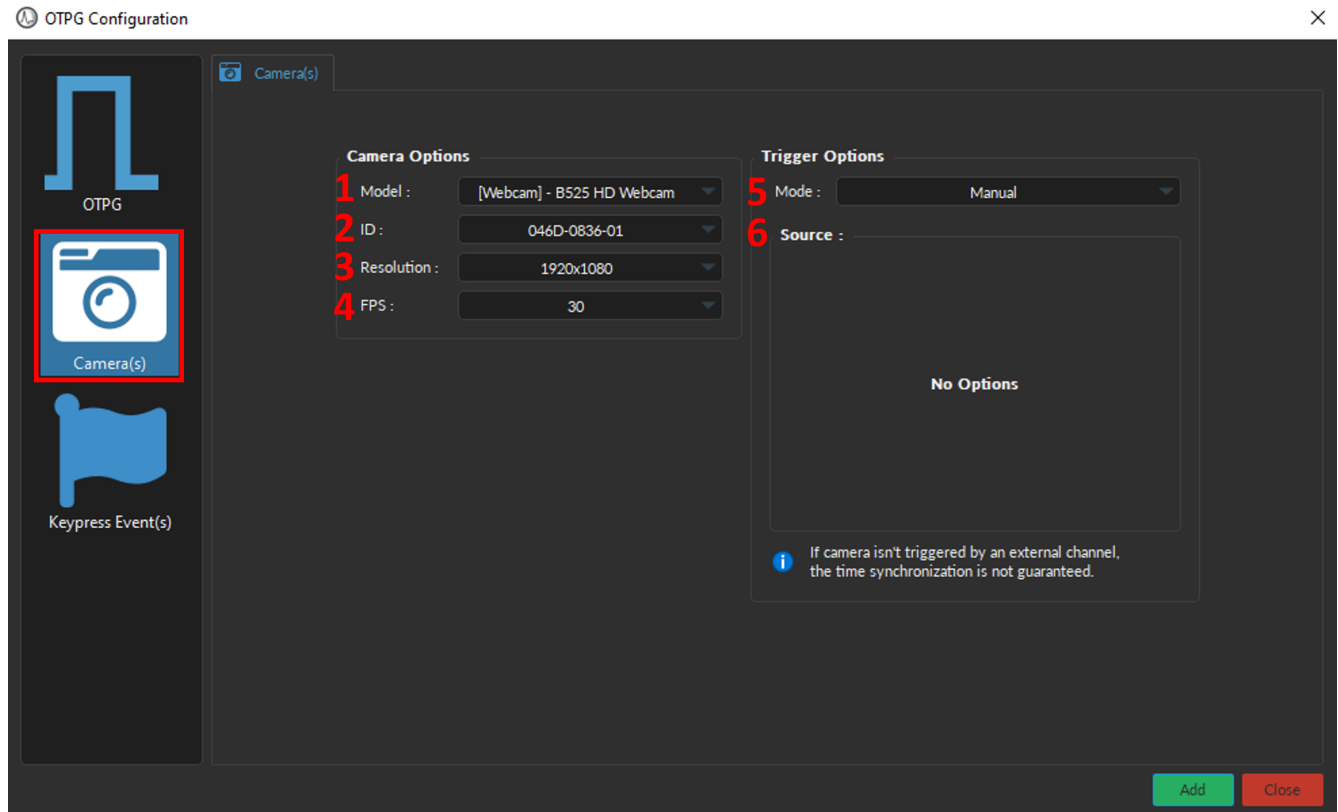
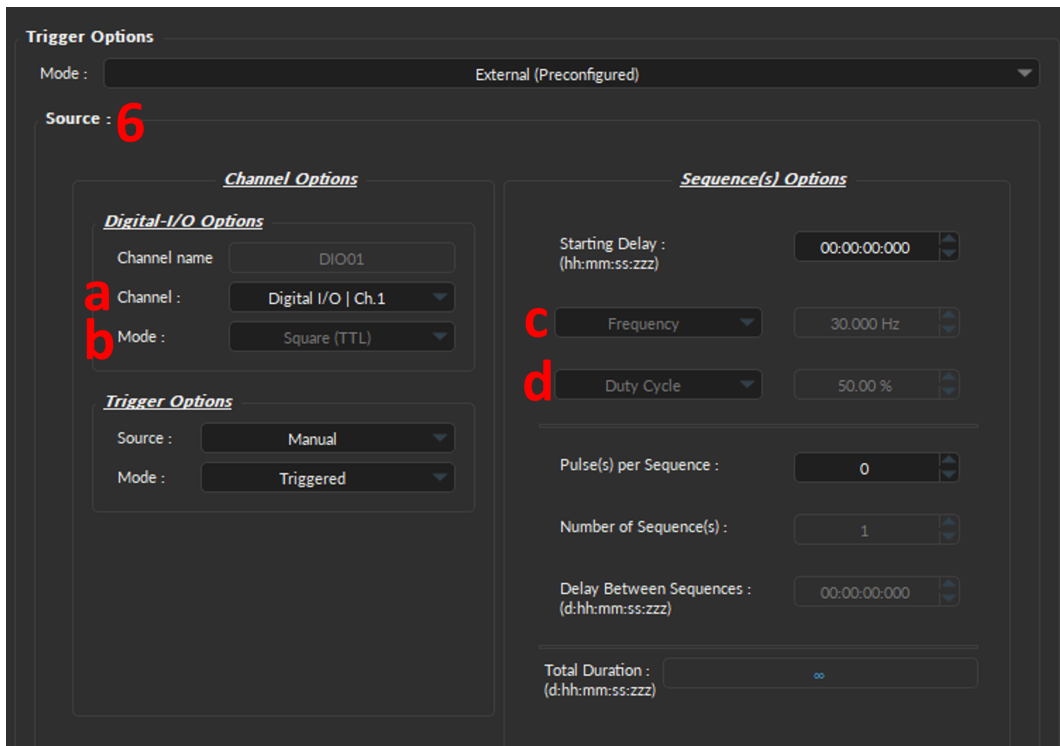

Figure 8.18: Channel(s) configuration window, Camera
Figure 8.20: Channel(s) configuration window, Camera - External (Preconfigured)
1. The **Model** (Fig. 8.18, 1) allows you to select the camera of choice based on the type of camera.
2. **ID** drop-down list (Fig. 8.18, 2) is used to select a camera based on its unique ID. The ID is particularly useful if multiple cameras of the same model are required for the experiment.
3. The **Image Size** (Fig. 8.18, 3) is used to set the resolution of the image. The large the number of pixels used for width x height, the better the resolution. Currently, image size can ranges between 160x120 to 1920x1080 pixels.
4. The **FPS** (Fig. 8.18, 4) is used to specify the frame rate of the camera (i.e. the number of images displayed per second). FPS can be any value between 5 to 30 for web cameras and up to 60 FPS for the *Doric Behavior Camera*.
- The **Mode** (Fig. 8.18, 5) sets the type of trigger that will control the camera. Depending on the type of camera, at most three modes are available:
- The **Source** (Fig. 8.18, 6 & Fig. 8.20) is only used for the **External (Preconfigured)** mode, and displays the **Digital I/O** channel with the preconfigured parameters that will be created at the same time as the **Camera Channel** (Fig. 8.20). For a detailed description of each Digital I/O parameter see Section 8.2.3. Briefly, key parameters include:
- The **Channel** (Fig. 8.20, a) corresponds to the physical Digital I/O channel number on the OTPG that is connected to the trigger cable of the *Doric Behavior Camera*.
- The **Mode** (Fig. 8.20, b) is by default set to the *Square (TTL)* which provides the external trigger signal to the camera. This parameter cannot be changed.
- The **Frequency** (Fig. 8.20, c) corresponds to the **FPS** set in the **Camera Options**. Changing the **FPS** will automatically change the **Frequency** in the **Sequence(s) Options**.
- The **Duty Cycle** (Fig. 8.20, d) is by default 50%. The frame will be taken at the start of each square pulse.